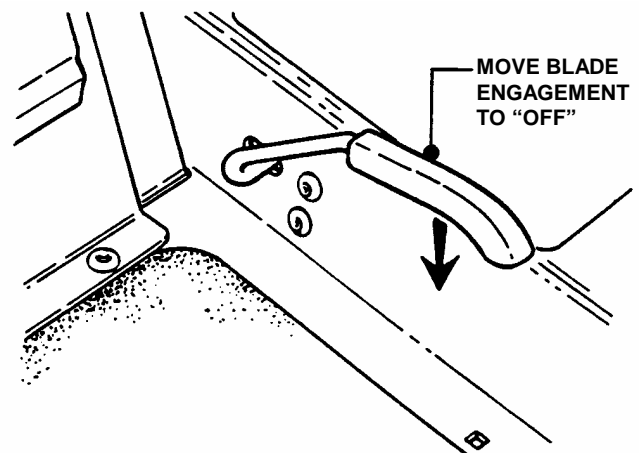

FIGURE 4.2
3. Move blade engagement lever down to "OFF". See Figure 4.2.